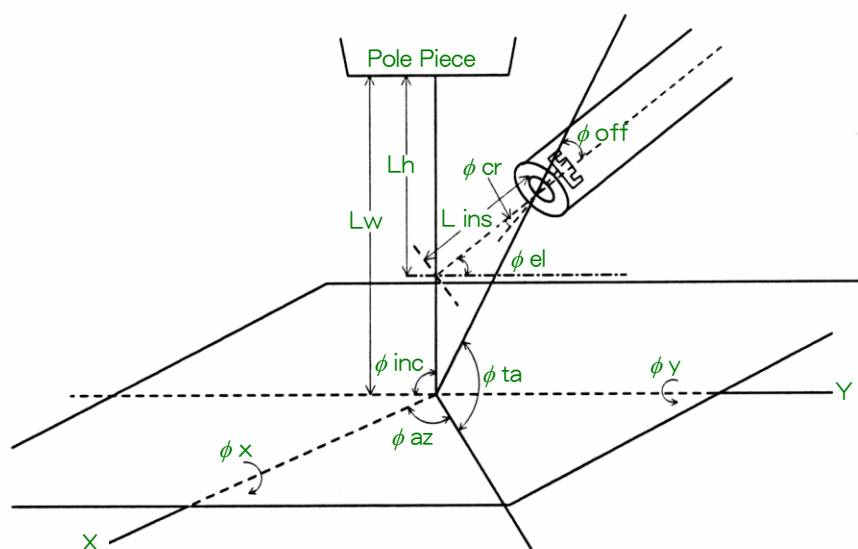
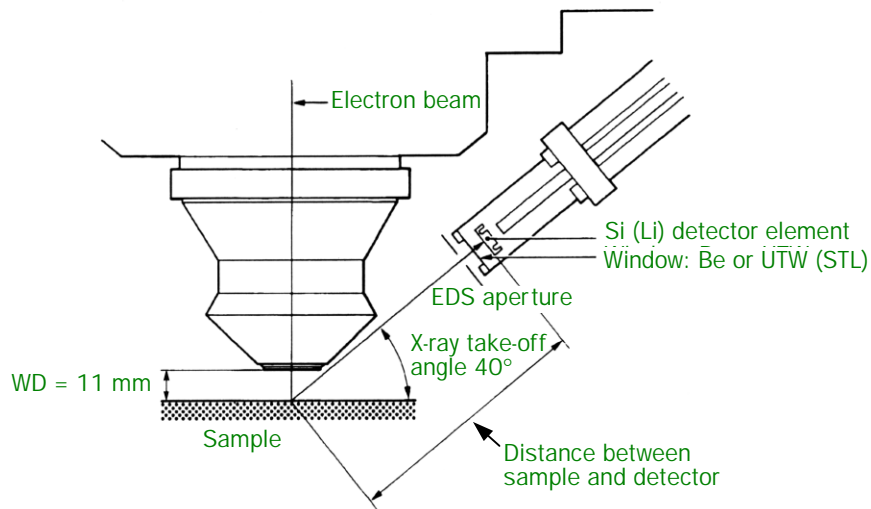

Fig. 7 Detector geometry
Fig. 8 X-ray take-off angle and working distance
Refer to Fig. 7 and Fig. 8.
- ◆ Enter the value of L ins as shown in Fig. 7.
- ◆ Enter the value of Lh as shown in Fig. 7.
~~✂~~ The value of Lh is equivalent to WD of Fig. 8. Set it to 11 when using a JEOL detector.
- ◆ Enter the value of ϕ_{el} as shown in Fig. 7.
- ✍ This value is equivalent to the X-ray take-off angle of Fig. 8. Set it to 40° when using a JEOL detector.
- ◆ Specify the value of ϕ_{az} as shown in Fig. 7 according to the port on which the spectrometer is installed as follows.
- ◆ Enter the value of ϕ_{cr} as shown in Fig. 7.